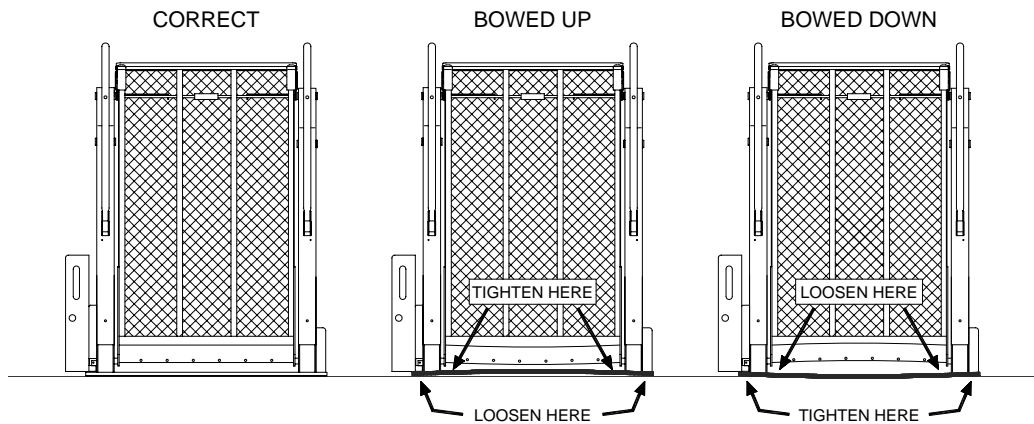

FIGURE 2-1: LIFT MOUNTING EXAMPLES
- ◆ Refer to **Figure 2-1**. Improper torquing sequence of bolts may result in a warped or bowed baseplate, which can cause lift to operate erratically.